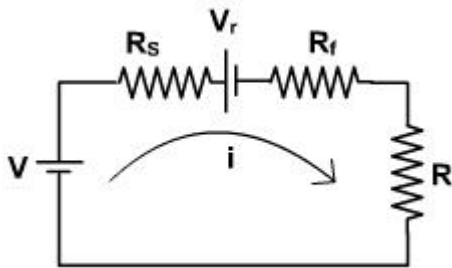

Fig. 6
- (b). When $V_1 = V$ and $V_2 = 0$, then one upper diode is forward biased and lower diode is unbiased. The resultant circuit using third approximation of diode will be as shown in **fig. 6**.